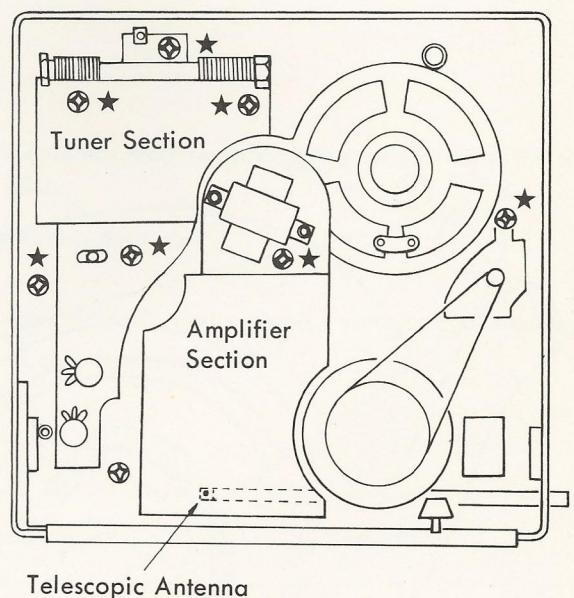

Figure 2. CHASSIS REMOVAL
7. Remove the nine (9) screws marked (★), the chassis can then be separated from the cabinet as shown in figures 2 and 3.